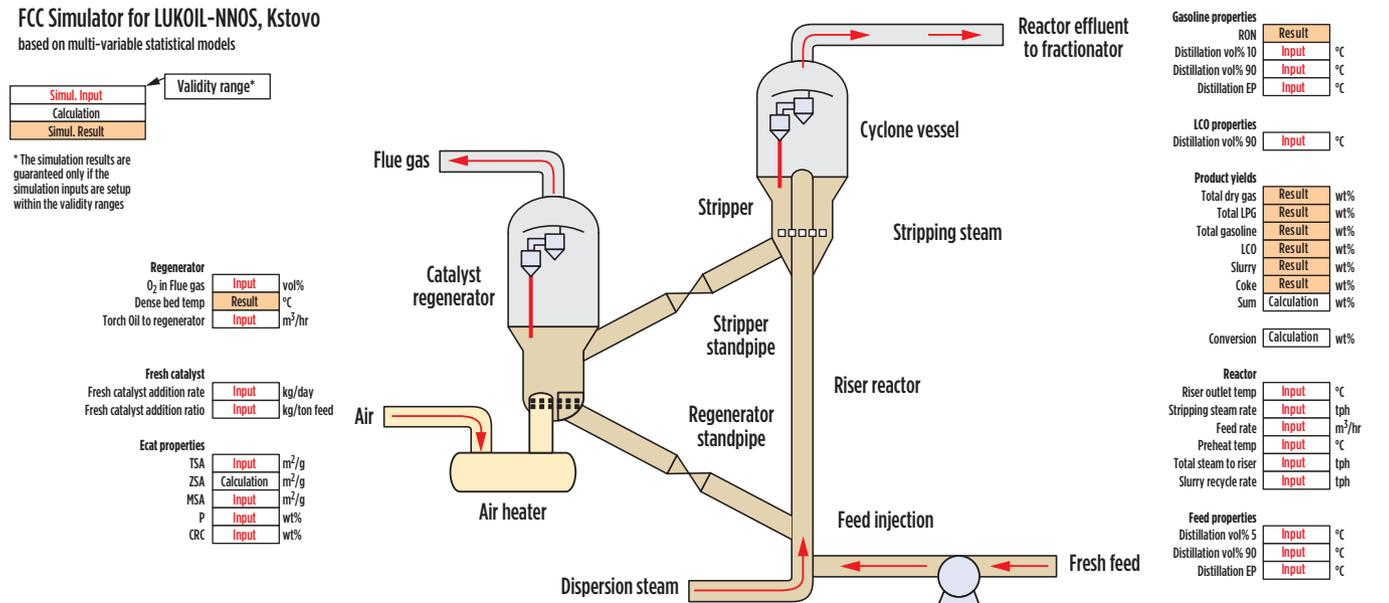

FIG. 7. FCCU process simulator interface.
7. The result is a set of models relating independent to dependent variables that are in a format that can be easily entered into a spreadsheet or the control system. If required, these models can be combined with a graphical user interface (see FIG. 7) and be used in a purely prediction mode to examine new feed, operating scenarios, etc. If this is done, then it is wise to document clearly the limit of validity for each model.
In addition to real-time monitoring of product yields, gasoline RON and RBT, Lukoil's NNOS refinery needed an FCCU simulator to examine new feed and/or operating scenarios.^c A cost-effective simulator was built in MS Excel by combining the unit-specific models with a graphical user interface. Conditional formatting and comments on specific cells were used to clearly document the validity of the models. FIG. 7 shows an example of the graphical user interface. This interface provides a convenient way to enter user inputs and also summarize the results. This page can be saved or printed to create a record of the case. Alternatively, the results can be archived if a study is being done to estimate the response of the unit to step-wise changes in the feed or operating conditions.